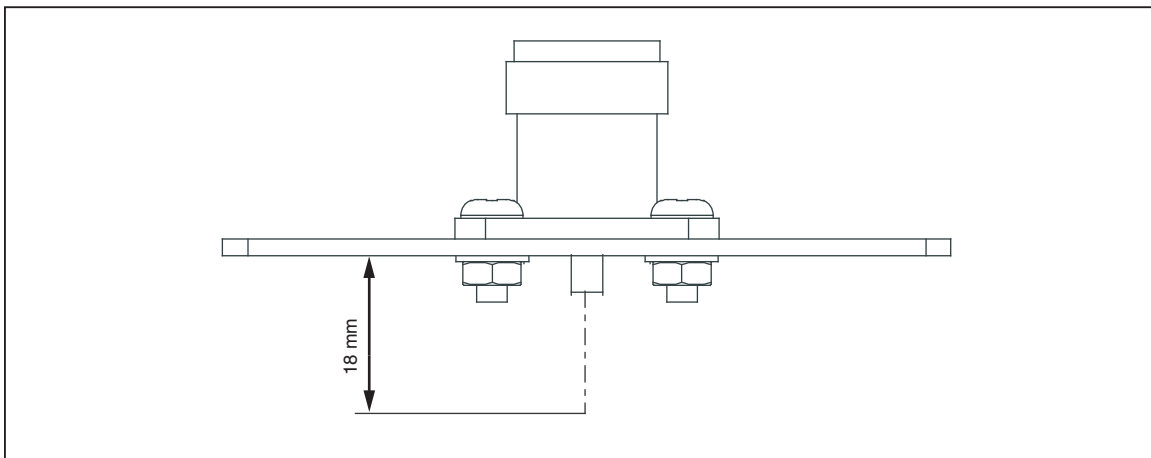

Figure 13. Output Voltage Connector
4. The inner pin of the N-type connector is connected by 18 mm (0.71 inches) of 20 SWG tinned copper wire to PCB **B**. See Figure 13. Working between and taking care not to damage the PCB struts, melt the solder attaching the wire from the back of PCB **B** and withdraw the N-type connector. It may be necessary to repeat both solder removal steps until both the base and the center pin are free.